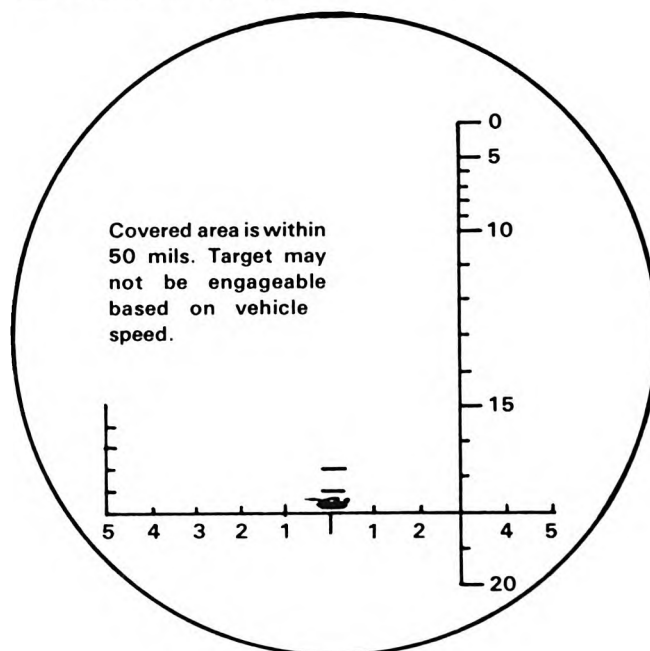

Figure 2.
b. Place the zero tic marks of the horizontal line at the center of the target (as in figure 2 below). If the area between the target and the 50-mil tic mark, in the direction of travel, is clear of obstructions, the target can be engaged.